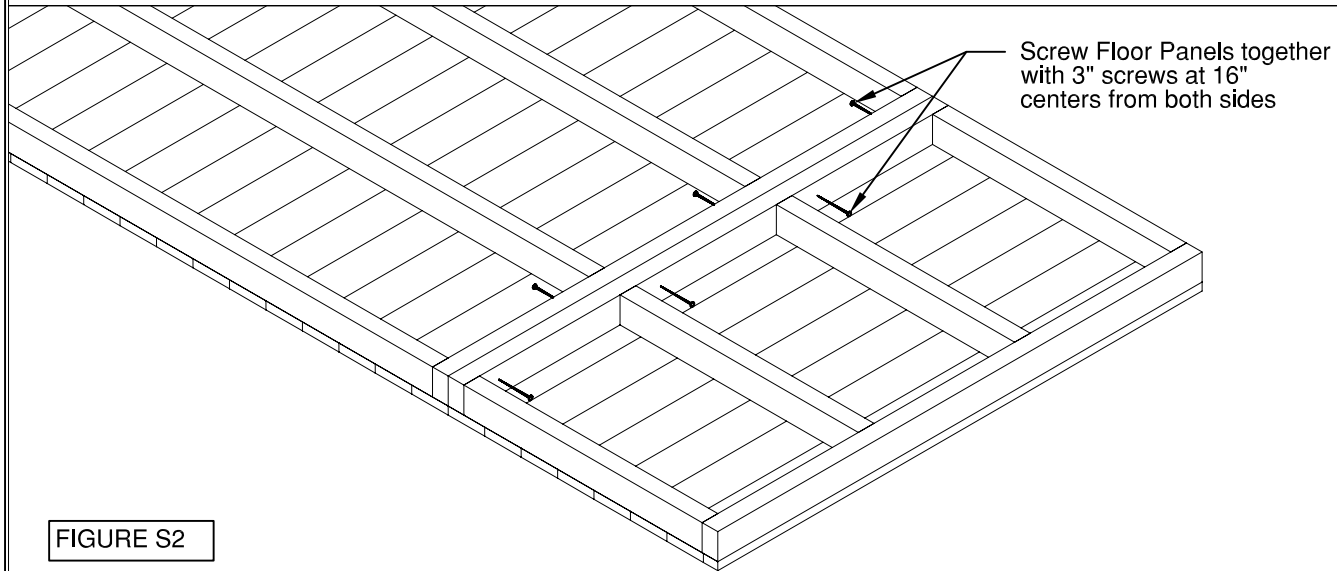

FIGURE S2
- Turn over both Floor Panel Sections (FIGURE S2) and slide them together onto the Level Foundation (FIGURE S3)